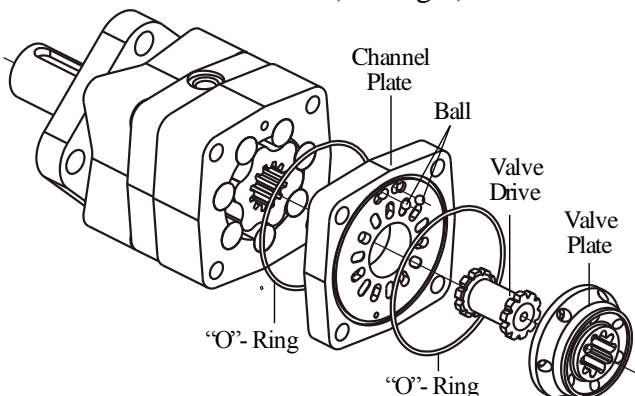

Fig.2
5. Separate Valve Plate from Channel Plate and remove Valve Drive (see Fig.2).
14. Lubricate and install 2 psc. Balls in channel plate ball grooves (see Fig.2).